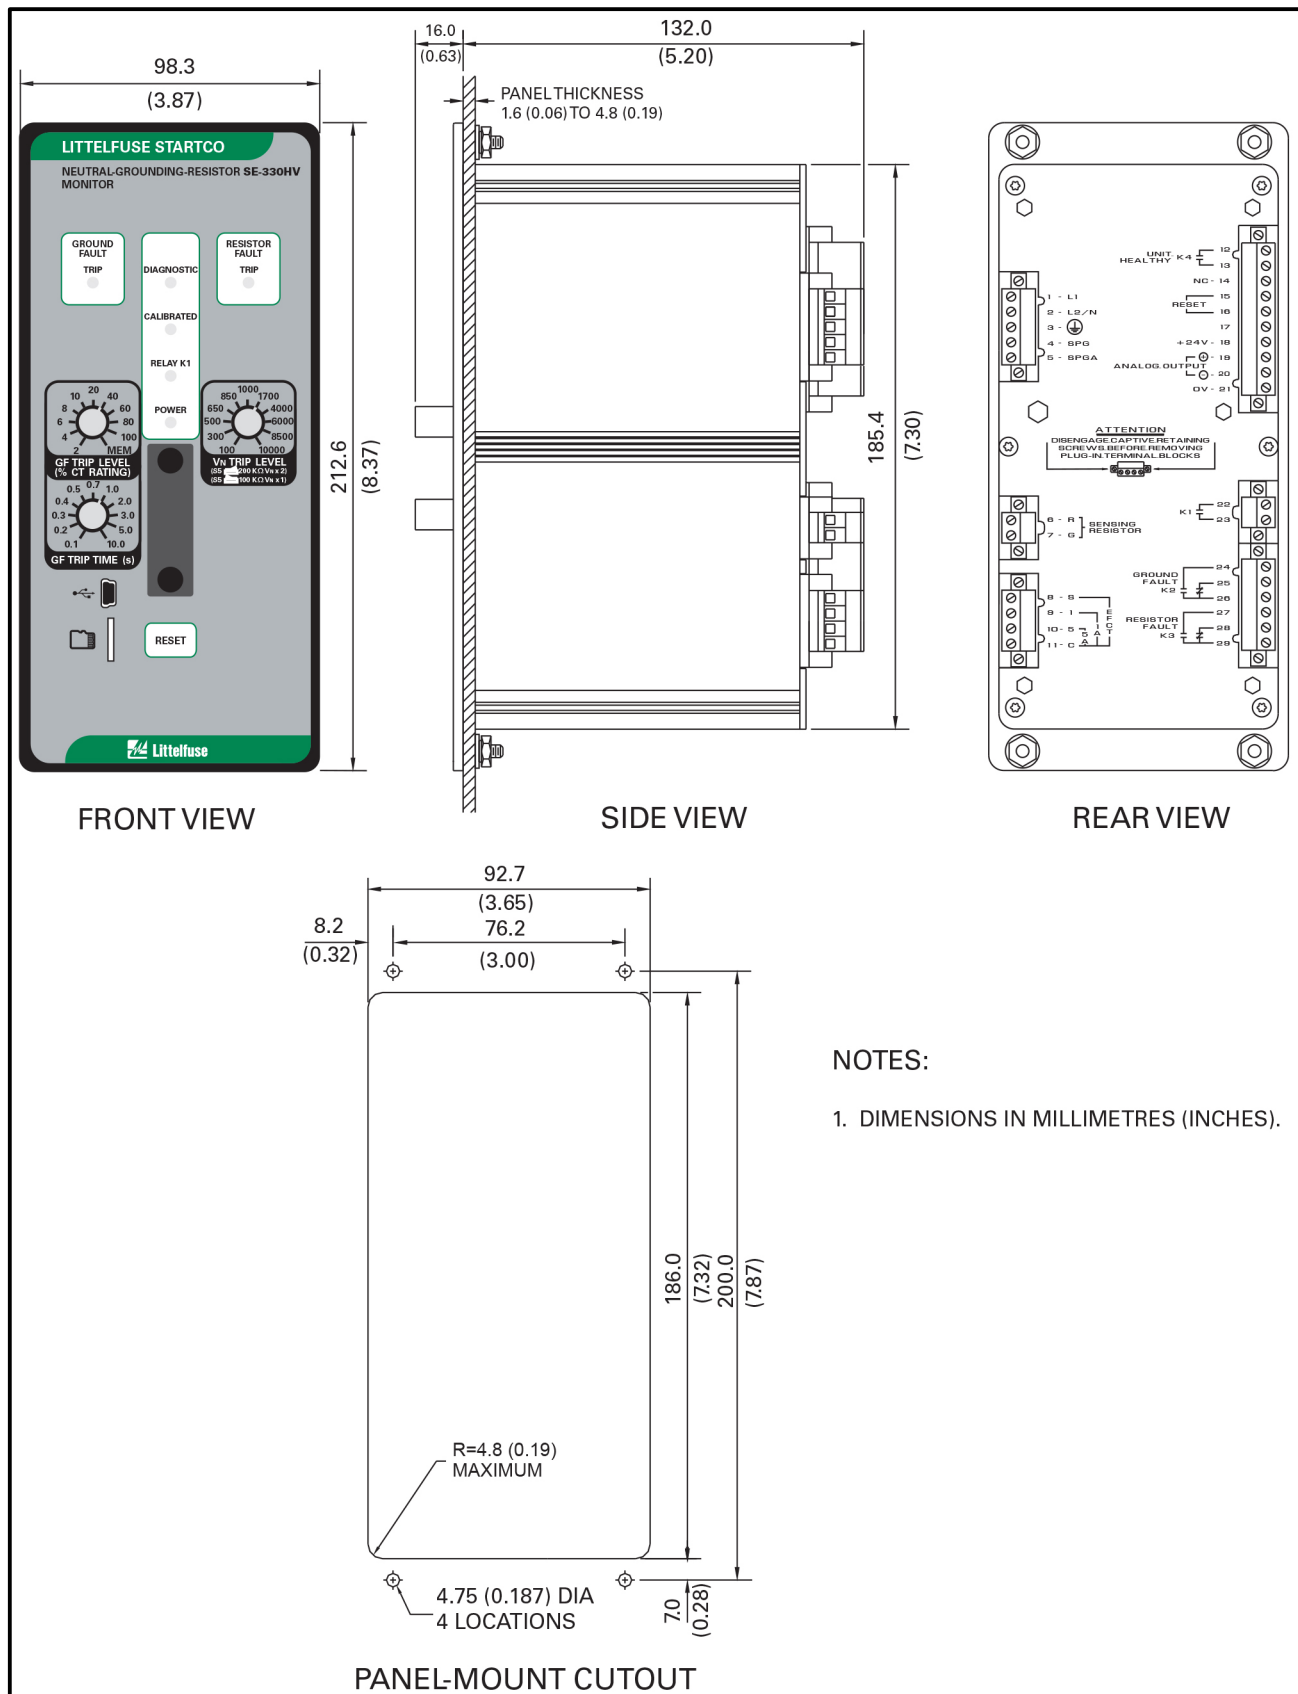

FIGURE 4. SE-330HV Outline and Panel-Mounting Details.
Outline and panel-cutout dimensions for the SE-330HV are shown in Fig. 4. To panel mount the SE-330HV, insert it through the panel cutout and secure it with the four included 8-32 locknuts and flat washers.
3. REFER TO PANEL MOUNTING CUTOUT (FIGURE 4) FOR PANEL MOUNTING DETAIL.